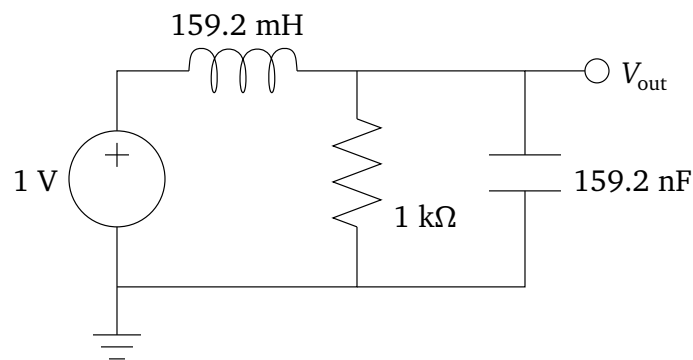

Figure 2: Passive Low-Pass Filter
1. Write the netlist for the circuit in Figure 2.